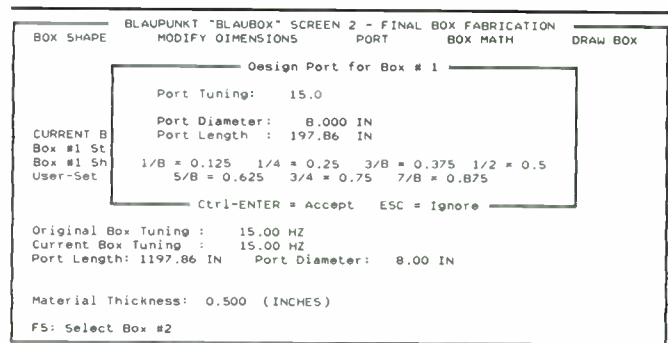

FIGURE 9: PORT window showing data overflow problem in Port Length; true value = 1197.86".
10. Port length data overflow in PORT. You can enter a port diameter that causes the displayed port length to overflow in the PORT window (Fig. 9). We again have the problem of the program displaying incorrect information, but in an area you probably will not encounter.